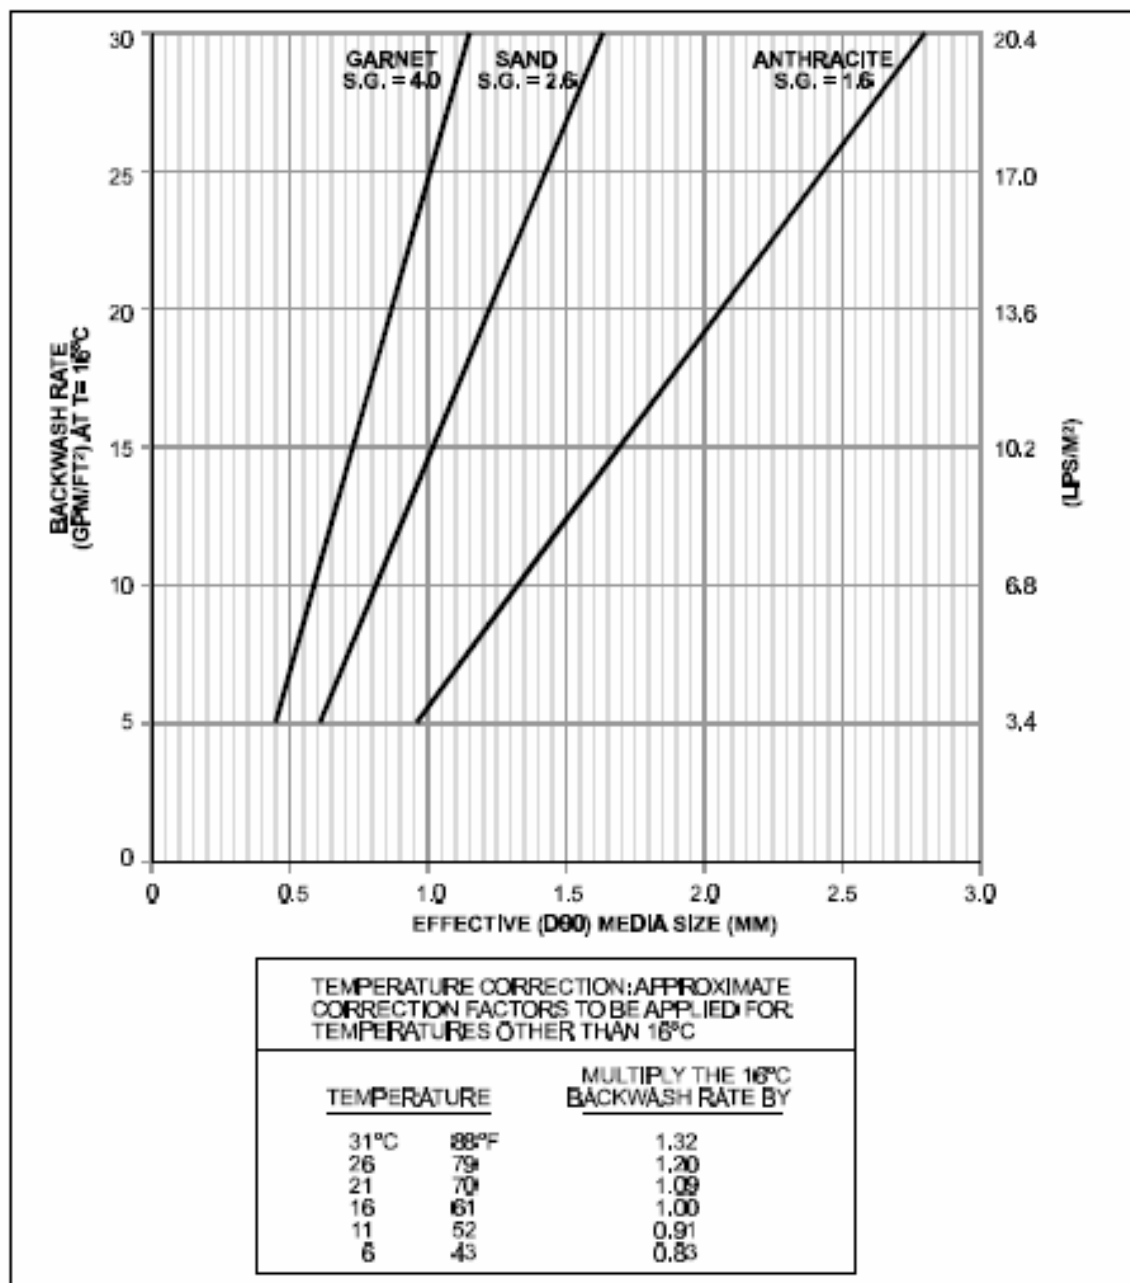

Figure 1
a. Media Expansion. Filter media should be expanded at least 20 to 25 percent for good cleaning action, although a greater expansion may be optimum in some cases. Higher expansions risk washing out some filter media along with the accumulated solids. The degree of expansion is affected by many variables associated with the filter media and the water. Filter media variables include size and gradation as well as shape and density. Water variables include viscosity and density which, in turn, vary with water temperature. Media cleaning is also affected by interparticle abrasion, although the bulk of the cleaning action is due to the force of the rising backwash water. Expansion can be measured by attaching cups to a pole at suitable intervals, then dipping the pole into the backwashing filter bed. The highest cup that contains sand indicates the height of bed expansion. A waterproof flashlight attached to a pole works well to show the top of the sand, but only after the backwash water becomes relatively clear. See Figure 1.